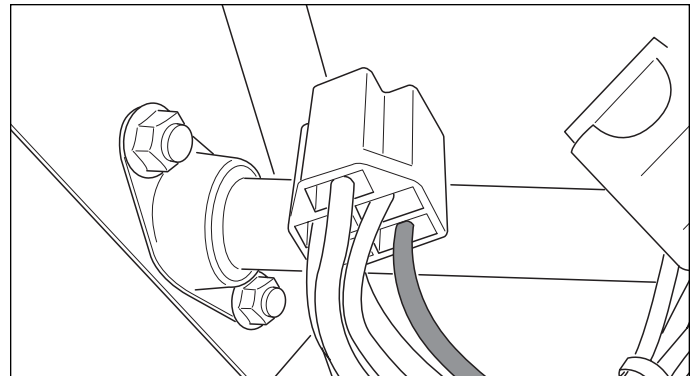

Figure 1. Install Ground Wire In Ignition Plug
3. Install the new ground wire into the empty socket in the ignition plug (see Figure 1). Make sure that the wire end "clicks" when inserted into the plug to insure it is installed properly.